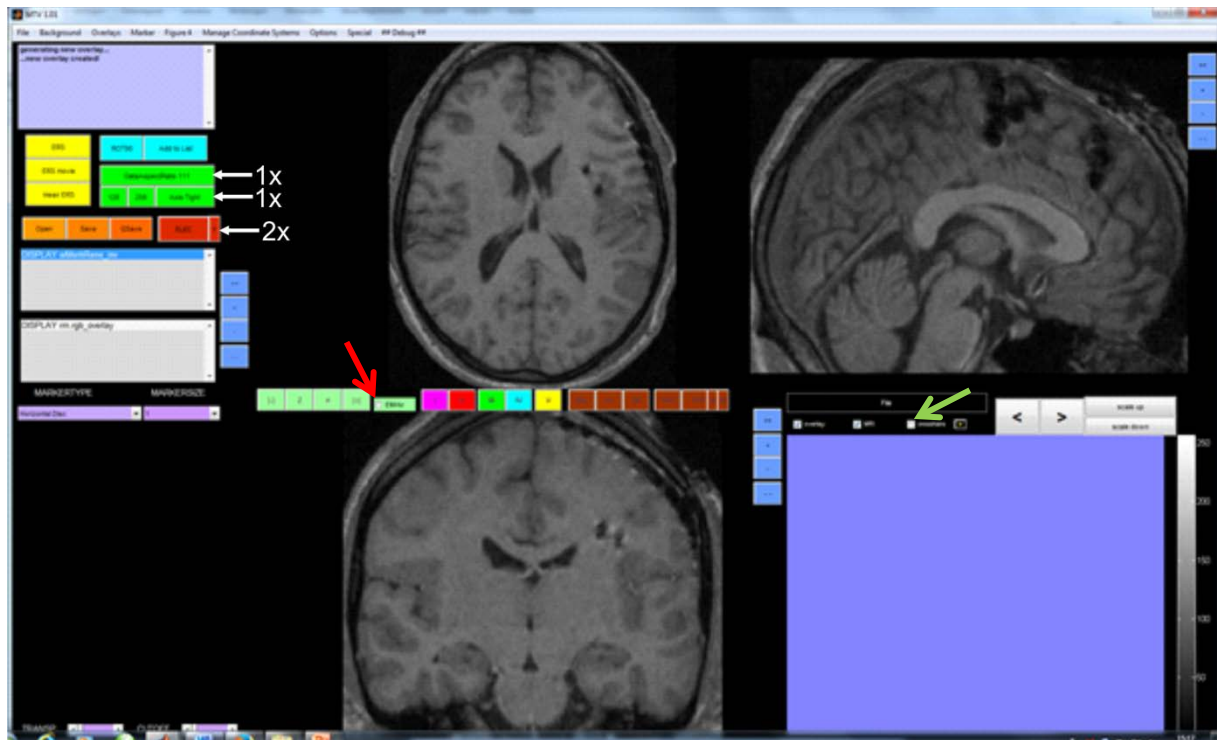
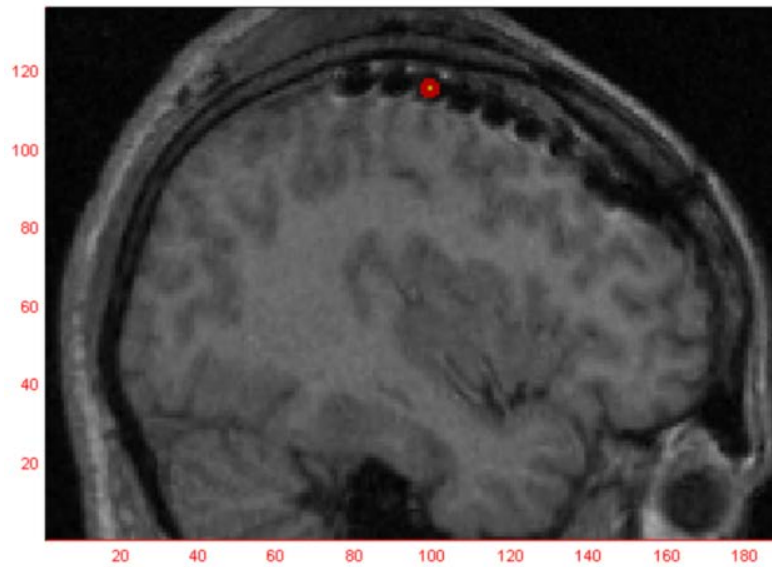

Figure 8: MTV screenshot: selection of suitable view
Figure 10: MTV screenshot of sagittal slice showing an electrode marker on a grid electrode artefact
→ Click 1**DataAspectRatio 1 1 1*; click 1**Axis Tight*; click 2**MODE* (white arrows in fig. 8)
- Check for the **yellow dot** in the marker center: if existent, **remove** it by clicking on box *ElMrkr* (red arrow in fig. 8) in order to set markers without yellow center. Else, each marker of a sulcus is later identified falsely as electrode position.
- Use crosshair (click box marked with green arrow in fig. 8) to find artifact center of an electrode in each of the three slices
- Select electrode marker: click on box *ELMrkr* (red arrow in fig. 8) or use *Marker → Toggle “Use electrode marker”*; Set marker in order to check for **a yellow dot in the center** (see fig. 10). Only markers with this dot are later assigned as electrodes. If the yellow dot is missing, repeat clicking *Toggle “Use electrode marker”*